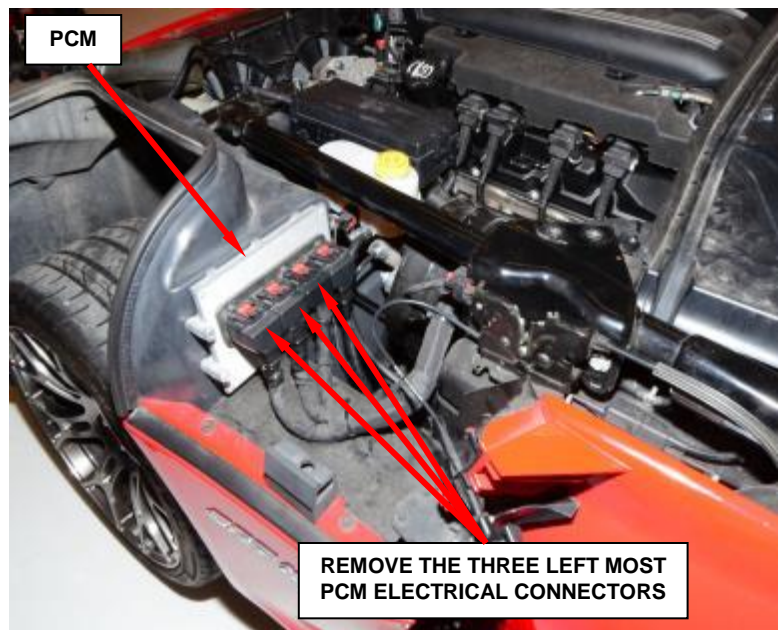

Figure 24 - PCM Electrical Connectors
26. Disconnect the three Powertrain Control Module (PCM) electrical connectors (Figure 24).